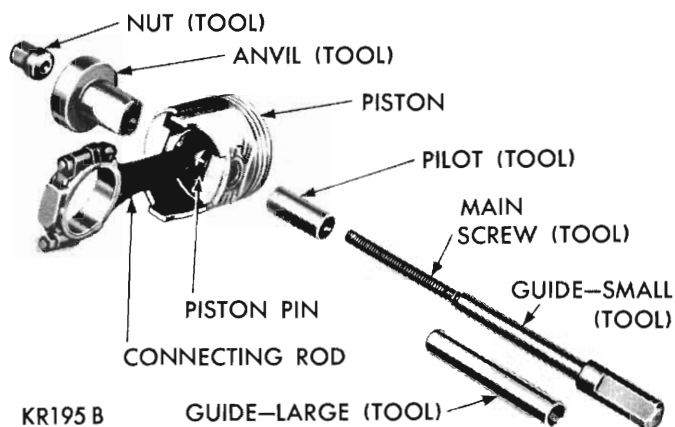

Fig. 31 - Tool arrangement for removing piston pin
(1) Arrange the tools E9C50C (318 c.i.) and E9C50F (360 c.i.) for removal of the piston pins as shown in (Fig. 31).
(2) Install pilot on main screw.
(3) Install main screw through piston pin.